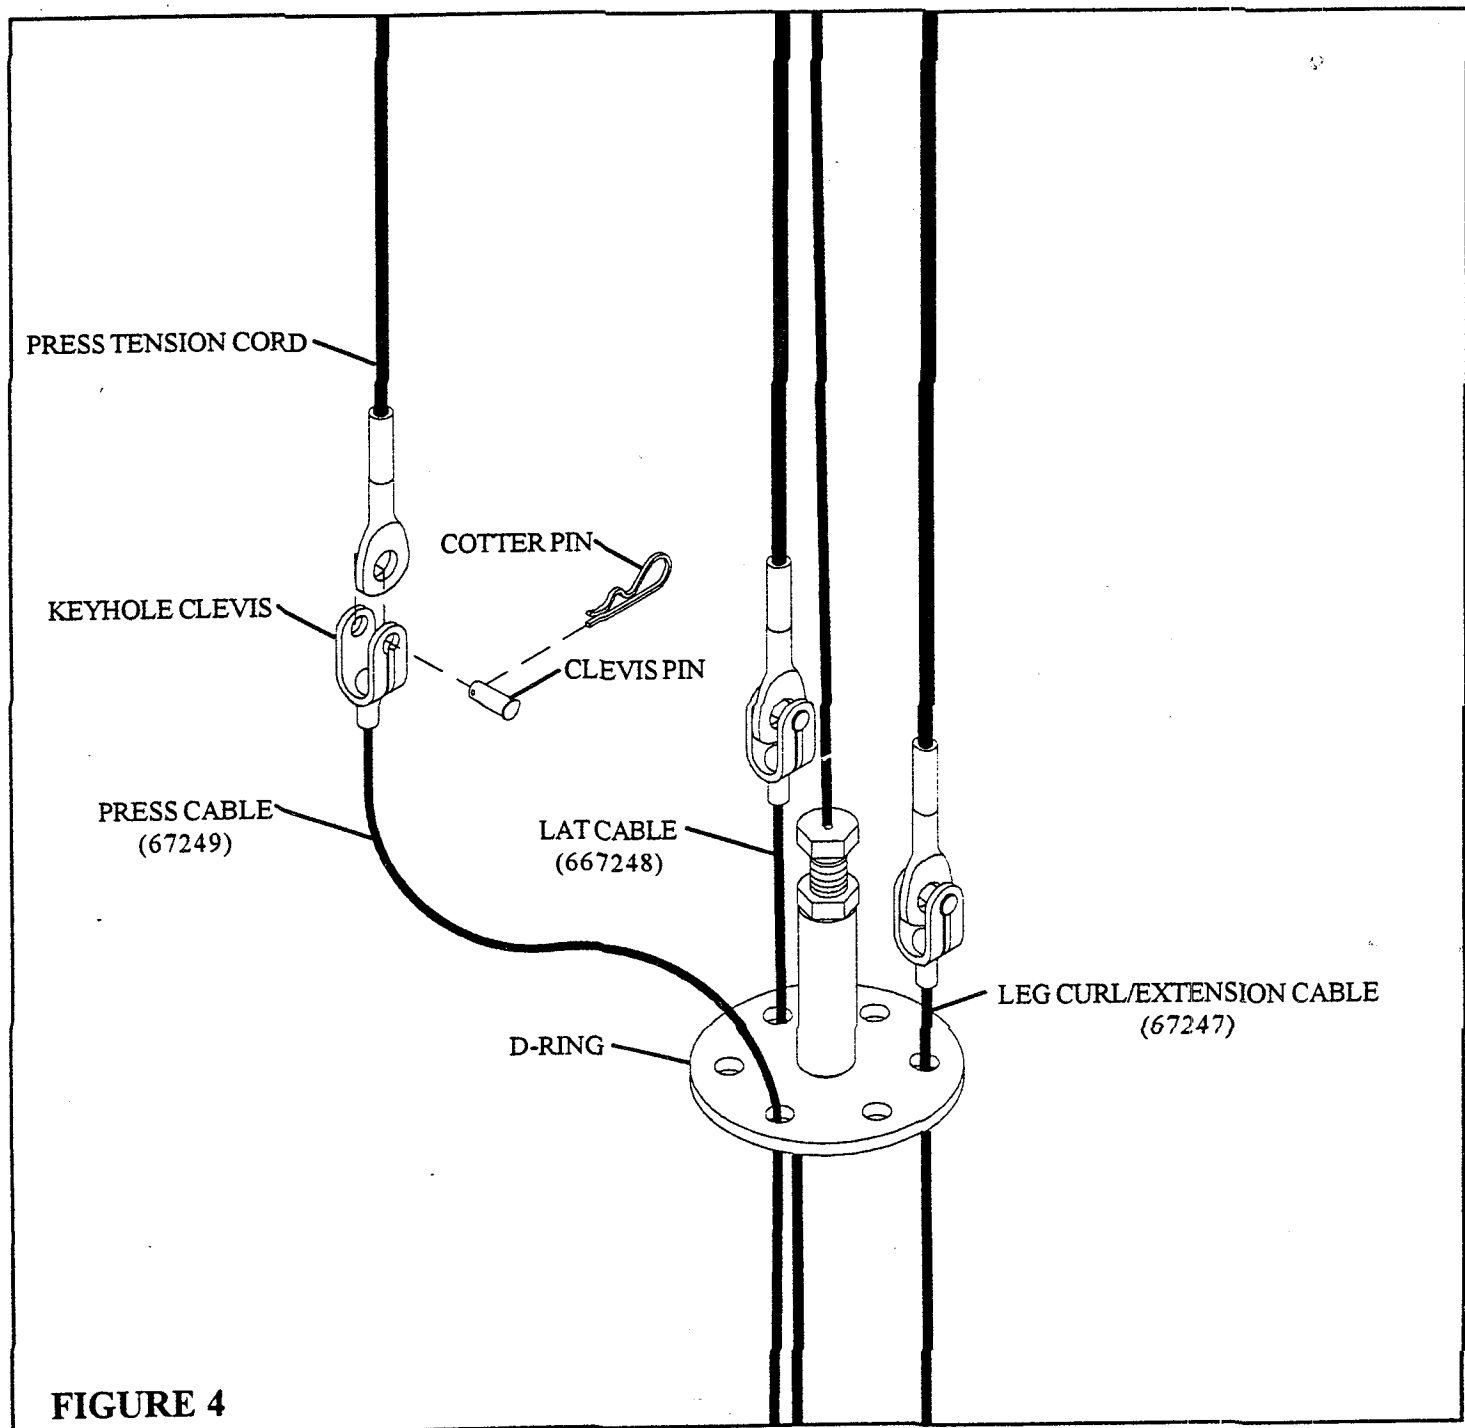

FIGURE 4
- **CAREFULLY** remove the PRESS TENSION CORD and PRESS CABLE by pulling the COTTER PIN and CLEVIS PIN from the KEYHOLE CLEVIS as shown in FIGURE 4.